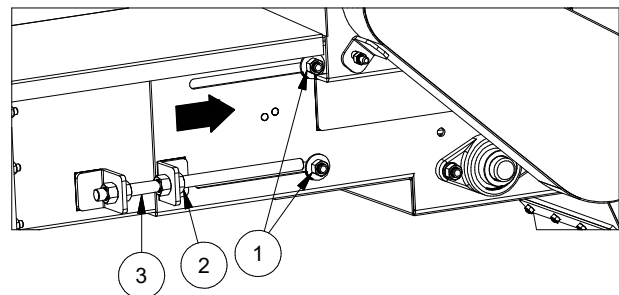

Fig 33 - Adjustment bolt components
1. Loosen lock nuts (1) on each side of the belt tensioning mechanism. See Figure 33
2. Use lock nuts on the adjustment bolts (2) to adjust the tension on the conveyor belt.
3. While holding the adjustment bolt (3) in place, retighten both lock nuts (2).